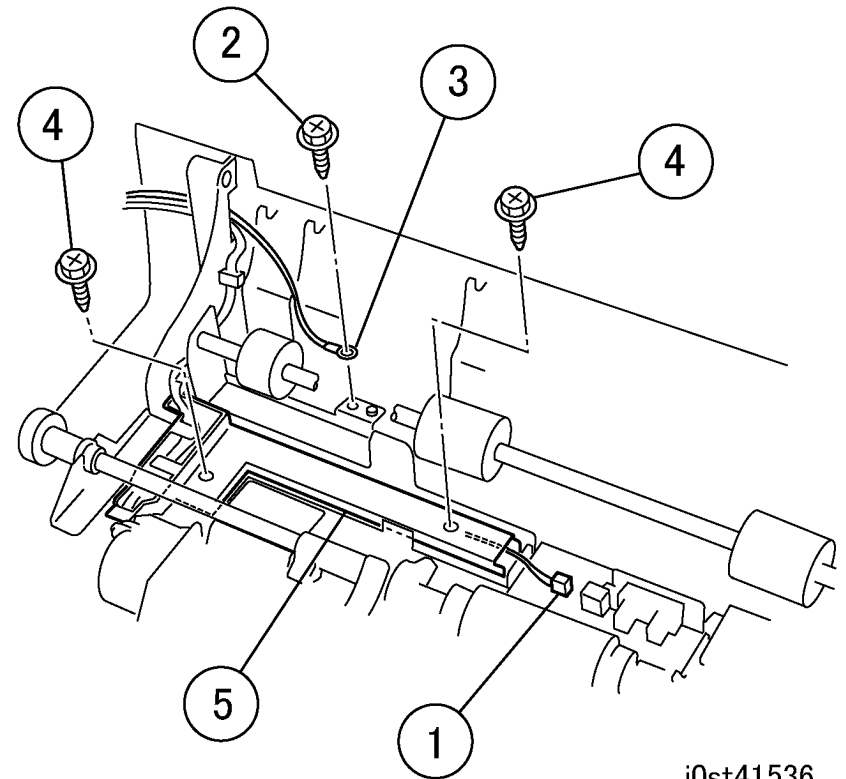

Figure 5 Unfastening the Wire Harness
7. Unfasten the Wire Harness. (Figure 5)